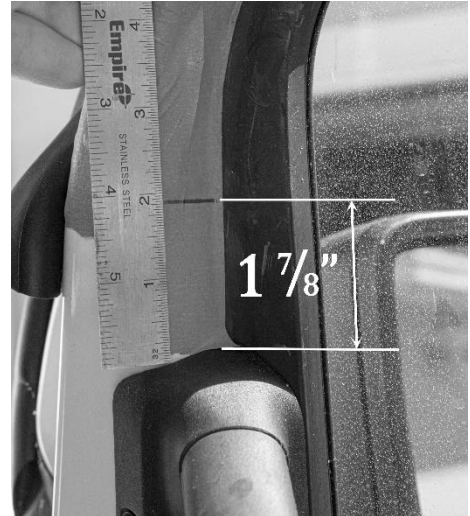

Figure 6
- b. Mark a line $1\text{-}7/8$ " up from the highest point of the black plastic handle. (See fig. 6)